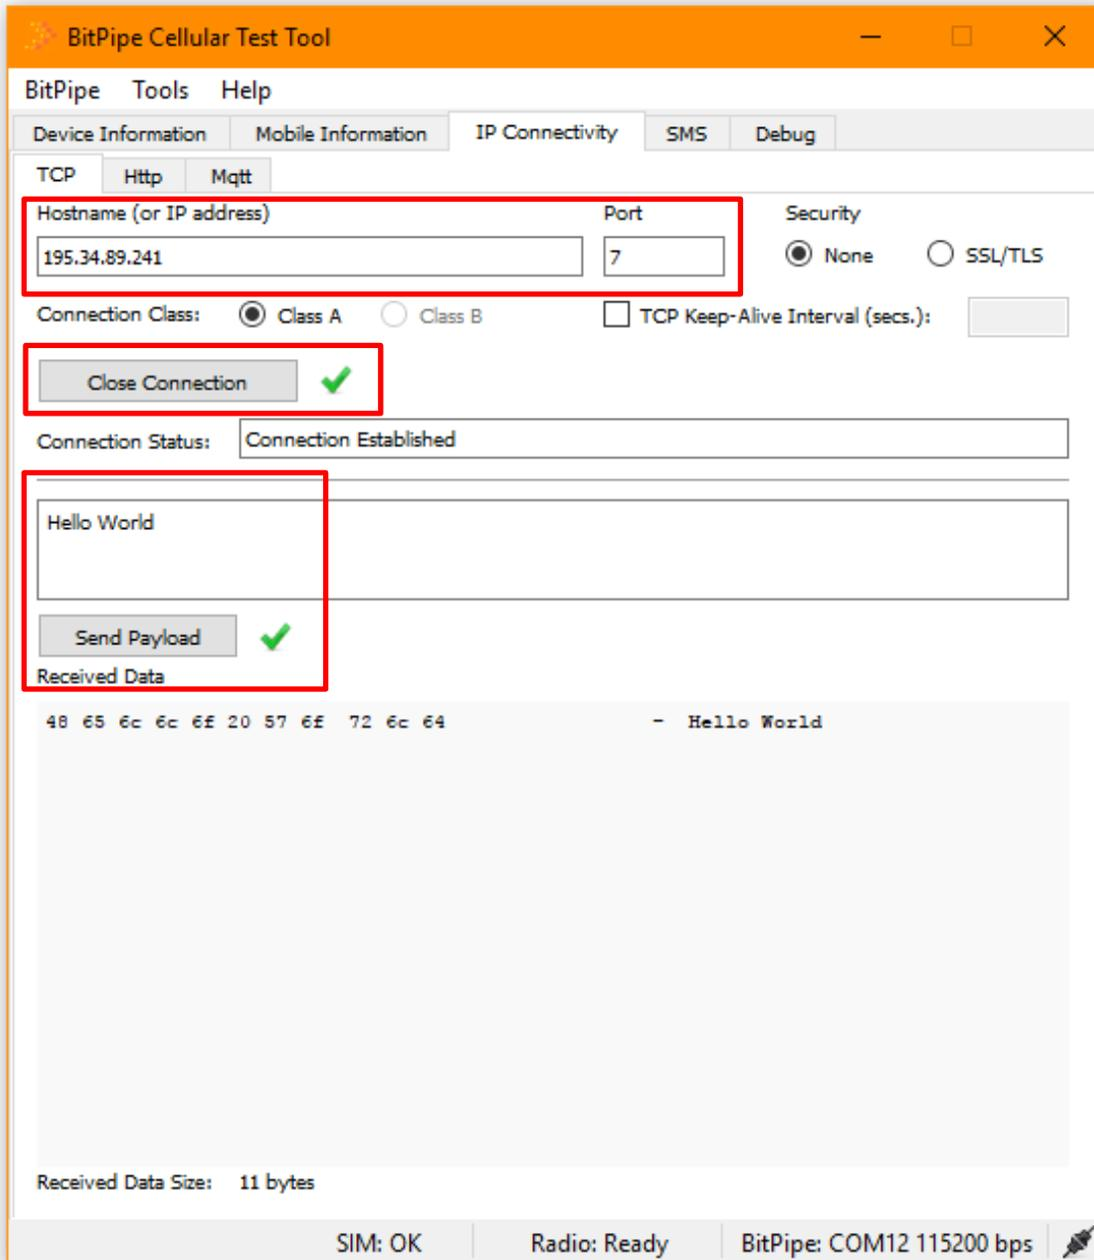

Figure 19: TCP echo
- 7- The response content will be displayed in the “Received Data” section (see Figure 19).